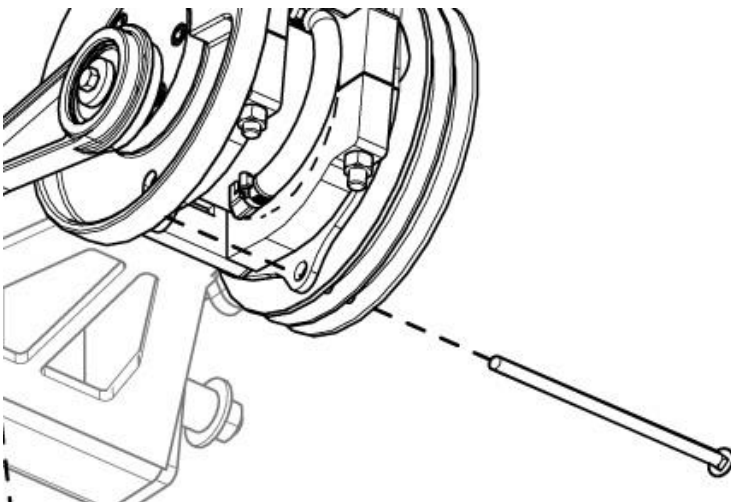

Figure 1
- Run a long bolt or rod through the alignment hole of the two flywheels to keep them aligned with each other. Figure 1